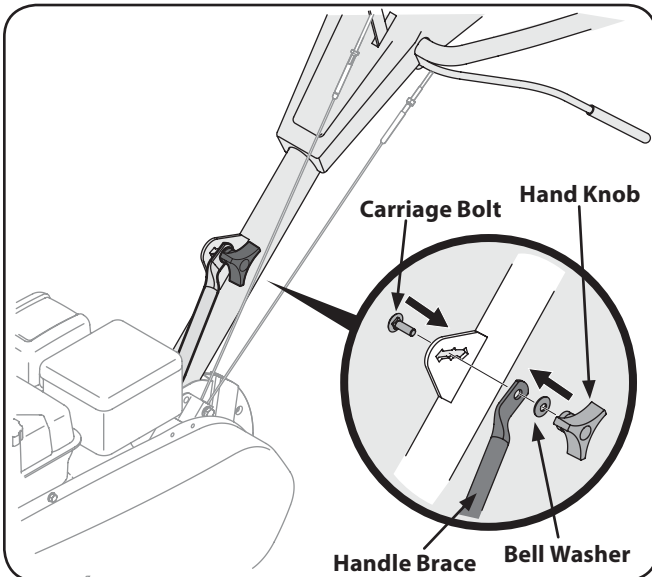

Figure 3-4
- Tighten the bolt securely after securing the handle brace as seen in Fig. 3-4.
- Insert the carriage bolt through the welded bracket on the handle, bell washer, handle brace and into the hand knob. See Fig. 3-4.
- Select one of the three handle height positions (three notches in the welded handle bracket) and tighten the hand knob to secure the handle in the desired position. See Fig. 3-4. Return to the lower handle and tighten the hex bolt securely.